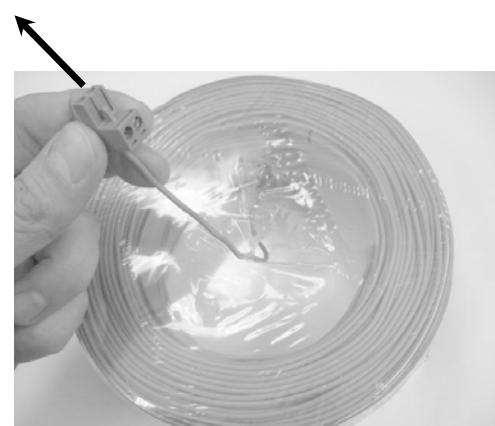

Figure 1.12 – Pull out the wire from the plastic covering – do not remove the covering; it is designed as a dispenser.
- Puncture the plastic covering of the perimeter wire and pull the wire ends with the plot connector out of the plastic covering; The connector should be connected to the wire in the polarity shown in Figure 1.12;